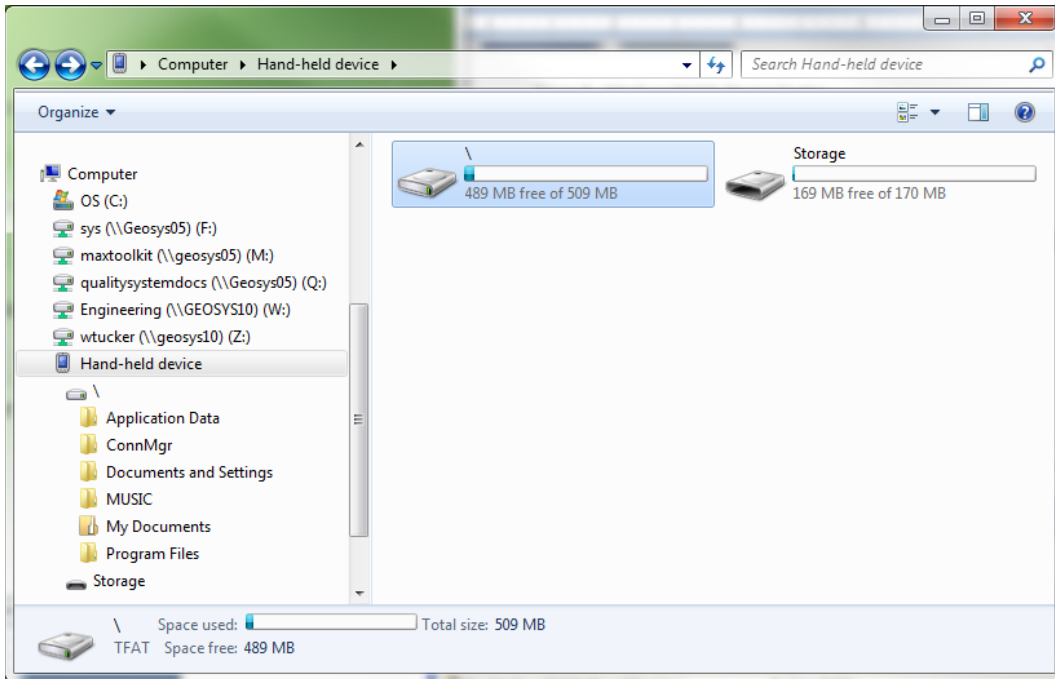

Figure 28 - Windows Explorer Window Displaying HHD Root Folder
- 1) From the Windows Mobile Device Center window on a desktop PC (see Figure 27 above), click on the folder icon labeled “Browse the contents of your device” to call up an Explorer Window for the HHD (Figure 28). The procedure for ActiveSync is very similar.